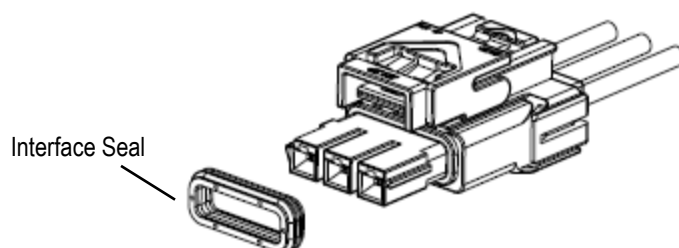
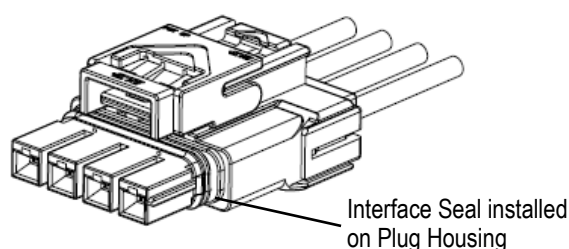

Figure 8
Figure 9
1. Assemble interface seal over contact silos of the plug housing as shown in Figure 8 until it rests against the mating face of the plug housing as shown in Figure 9.